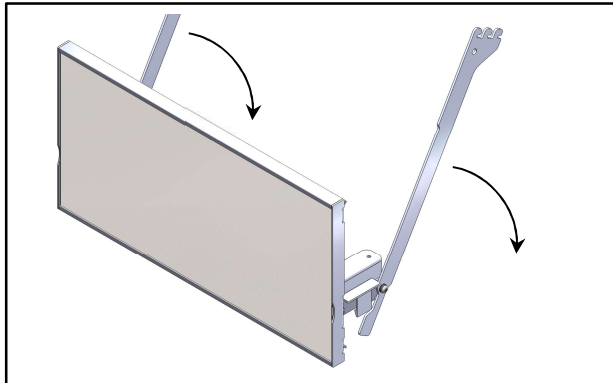

Figure 20
1. Remove the Sign from its packaging and rotate the 2 brackets down until they click and lock (See Figure 20).